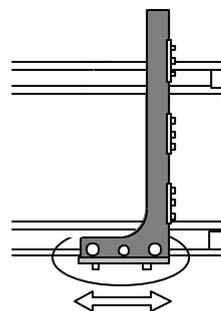

Figure 14
7. If the moveable rail alignment is not balanced, loosen the screws on the linear guide rail bracket, (used to change the carrier width) and align the adjustable side to the reference side. (Fig. 14)